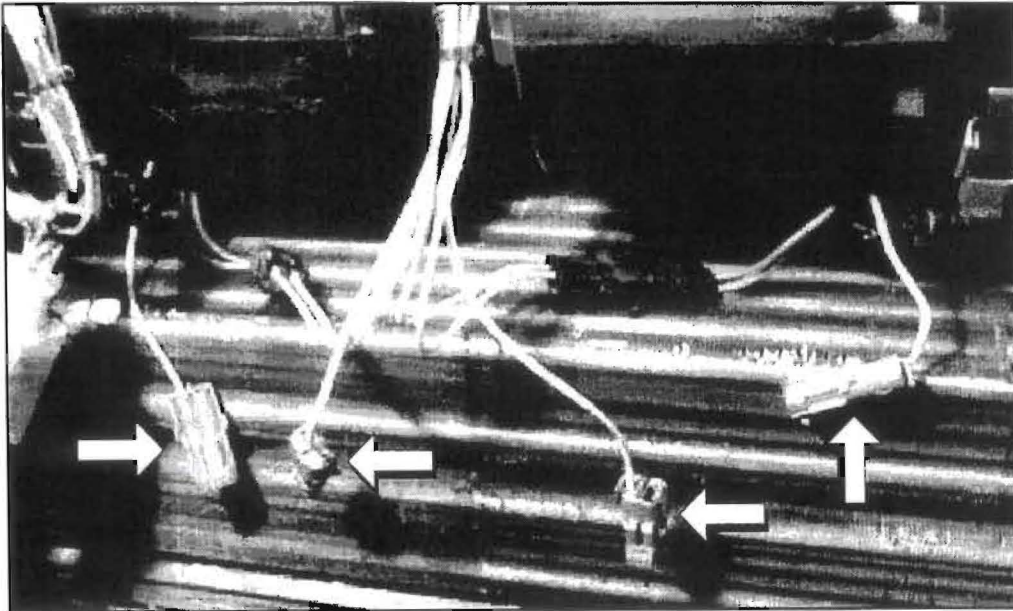

Figure 4.
7. Disconnect the three connectors leading to each of the existing control modules. Drill out the two rivets holding the existing modules in place. Remove and retain the existing modules, **as they are required to be returned to MCI**. Connect the two wire receptacles from the coach harness directly to the motor plugs (Figure 4).